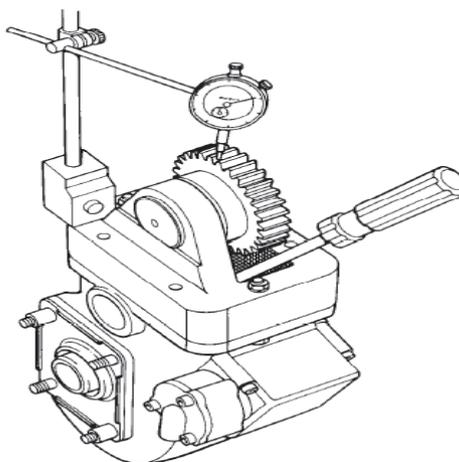

Figure 7 Checking Adapter-to-PTO Backlash
- j. Install a dial indicator on the adapter housing with the dial indicator plunger resting squarely on the adapter gear (Figure 7).